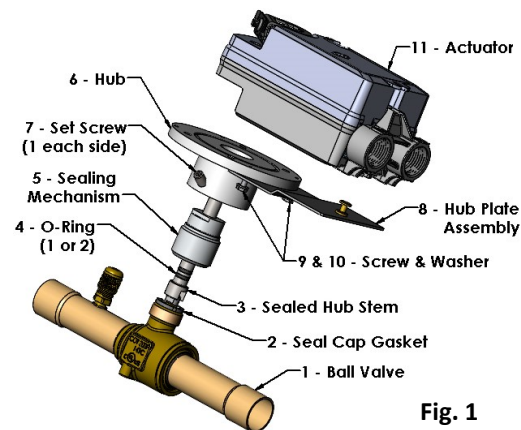

Fig. 1
1. Remove Sealing Mechanism (5) from Hub Assembly (2-7). Sealed Hub Stem (3) should remain partially installed in the Sealing Mechanism. Ensure Stem and O-Ring Seals (4) are well lubricated.
2. Ensure top of the Ball Valve (1) brass sealing surface is clean and free of debris.
3. Place Seal Cap Gasket (2) on sealing surface of Seal Mechanism (5) where it is located between the Seal Mechanism and the top of the valve neck.
4. Thread the Sealing Mechanism down on top of valve neck (hand tighten). Align slot in the Stem (3) with valve stem, and seal is between Sealing Mechanism (5) and top of valve neck.
5. Partially install the Set Screws (7) into the Hub.
6. Thread Hub (6) over the Sealing Mechanism (5) and onto the valve as far as possible, stopping just before bottoming out.
7. Align Hub so that Actuator (11) is in desired orientation. With Allen wrench, tighten Set Screws (7). Torque 60-65 lb-in on either side of Hub until Hub is secured against the Ball Valve body to avoid rotation during operation.
8. While holding to proper orientation, continue to tighten Sealing Mechanism to snug with wrench, then approximately $\frac{1}{4}$ to $\frac{1}{2}$ more turns until secure to ensure tight seal against valve body. Pull Stem (3) upward while tightening the Sealing Mechanism, away from Ball Valve, to remove any slack in the assembly.
9. Attach Hub Plate Assembly (8) to Hub (6) using two #6 screws and washers (9 & 10). See Figs. 1, 4 & 5 for orientation of Hub Plate Assembly.